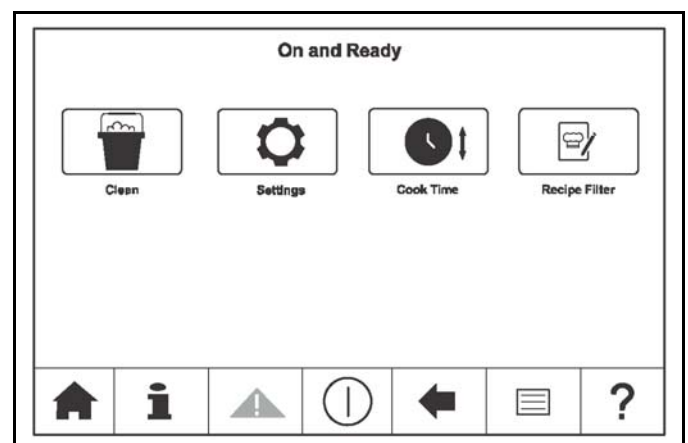

Figure-30
15. Select the Recipe Filter key . See Figure-30.